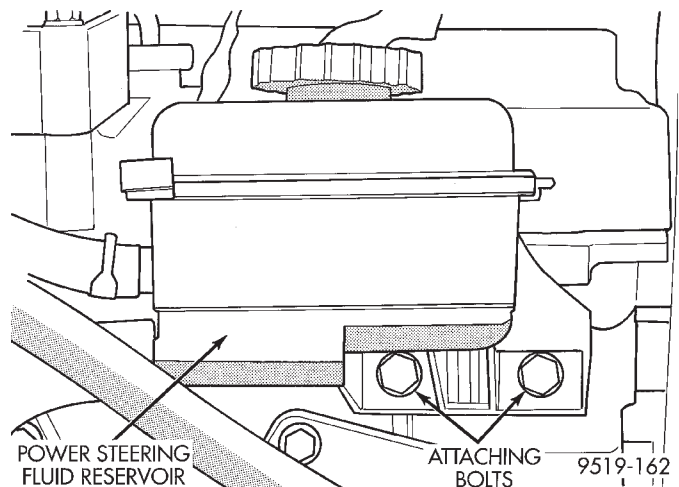
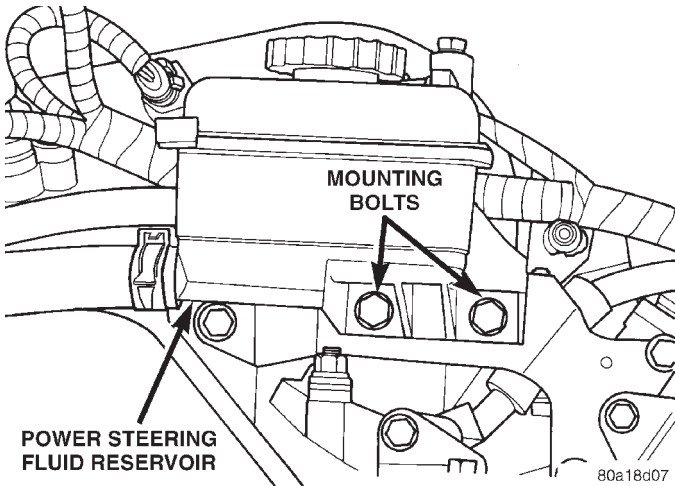

Fig. 51 Power Steering Fluid Reservoir Mounting 2.4 Ltr. Engine
Fig. 52 Power Steering Fluid Reservoir Mounting 2.5 Liter Engine
(5) Remove power steering fluid return and supply hose, from power steering fluid reservoir.
(6) Remove bolts attaching power steering fluid reservoir to engine (Fig. 51) or (Fig. 52).
(1) Install power steering fluid reservoir on cylinder head. Install and securely tighten the power steering fluid reservoir attaching bolts (Fig. 51) or (Fig. 52).
(2) Install power steering fluid return and supply hose, on power steering fluid reservoir fittings. **Be sure both hose clamps are installed on hose past upset bead on power steering reservoir fittings.**
(3) Raise vehicle.
(4) Install power steering supply hose, on suction fitting of the power steering pump. **Be sure hose clamp is installed on hose past upset bead on power steering gear steel tube.**
(5) Fill power steering pump fluid reservoir to the proper level.
(6) Start the engine and let run for a few seconds. Then turn the engine off.
(7) Add fluid if necessary. Repeat the above procedure until the fluid level remains constant after running the engine.
(8) Raise front wheels of vehicle off the ground.
(9) Start the engine. Slowly turn the steering wheel right and left, lightly contacting the wheel stops. Then turn the engine off.
(10) Add power steering fluid if necessary.
(11) Lower the vehicle and turn the steering wheel slowly from lock to lock.